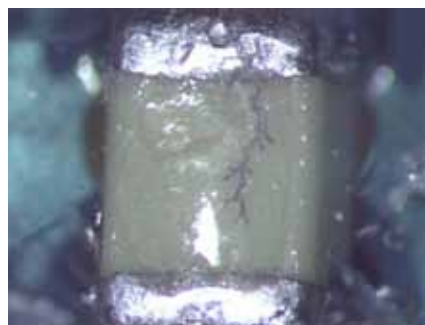

Figure 5. Dendrite grows under conformal coating (Courtesy Foresite).
2. Prevent assembly contact with moisture. This is commonly accomplished by the application of conformal coating. Contrary to popular belief, conformal coating, while providing an excellent barrier to fluids, does not prevent all contact with moisture. Over time, moisture can penetrate coatings, (Figure 5) resulting in residue-related failures as previously described.